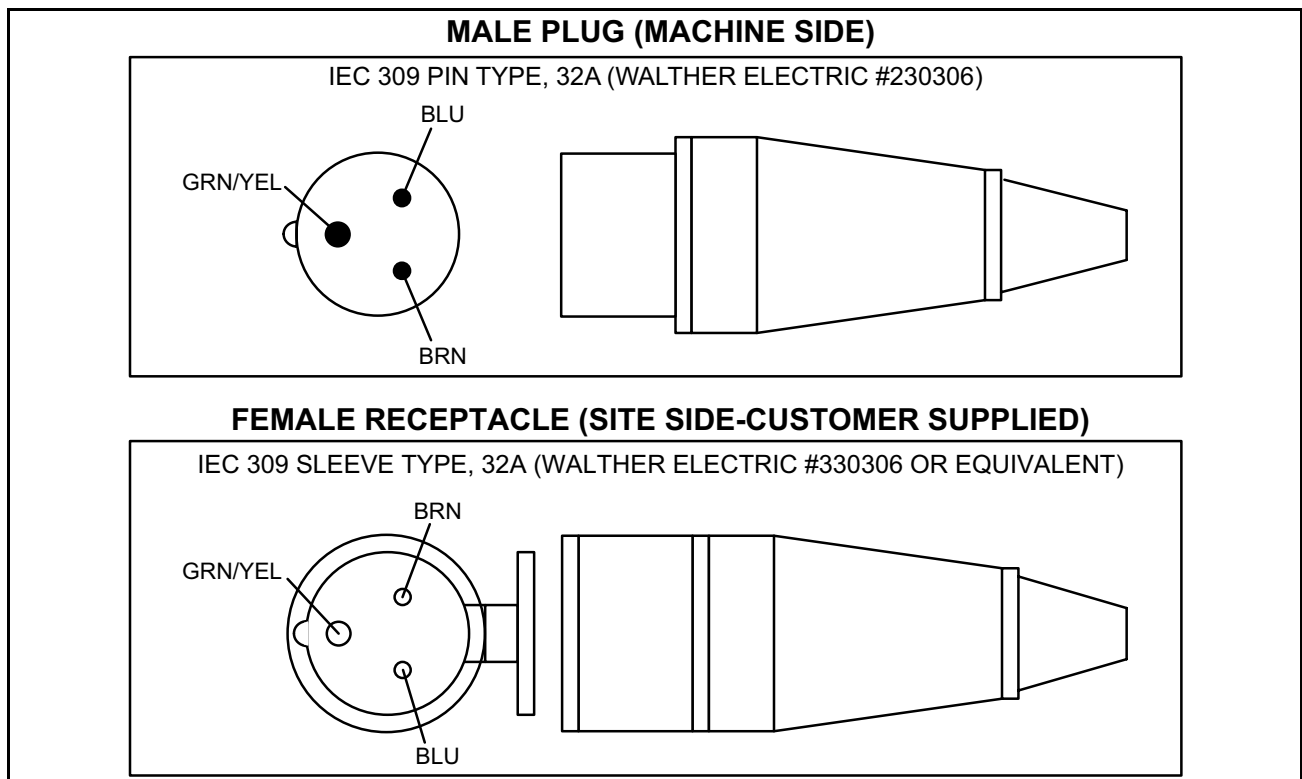

Figure 3-13: European (EU) Plug & Receptacle Requirements
For plug and receptacle installations, use an IEC 309 Sleeve type receptacle (Walther Electric #330306 or equivalent). See European (EU) plug and receptacle diagram in Figure 3-13.